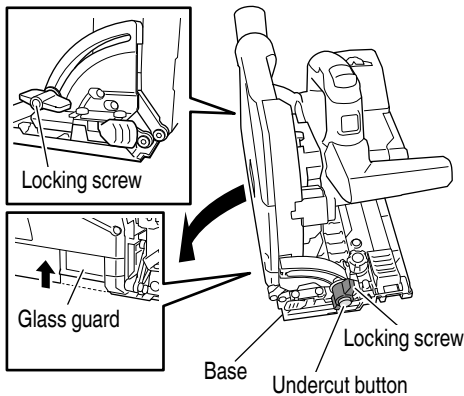

Fig. 18
**2. Slanting saw blade for diagonal cuts (Fig. 18)**